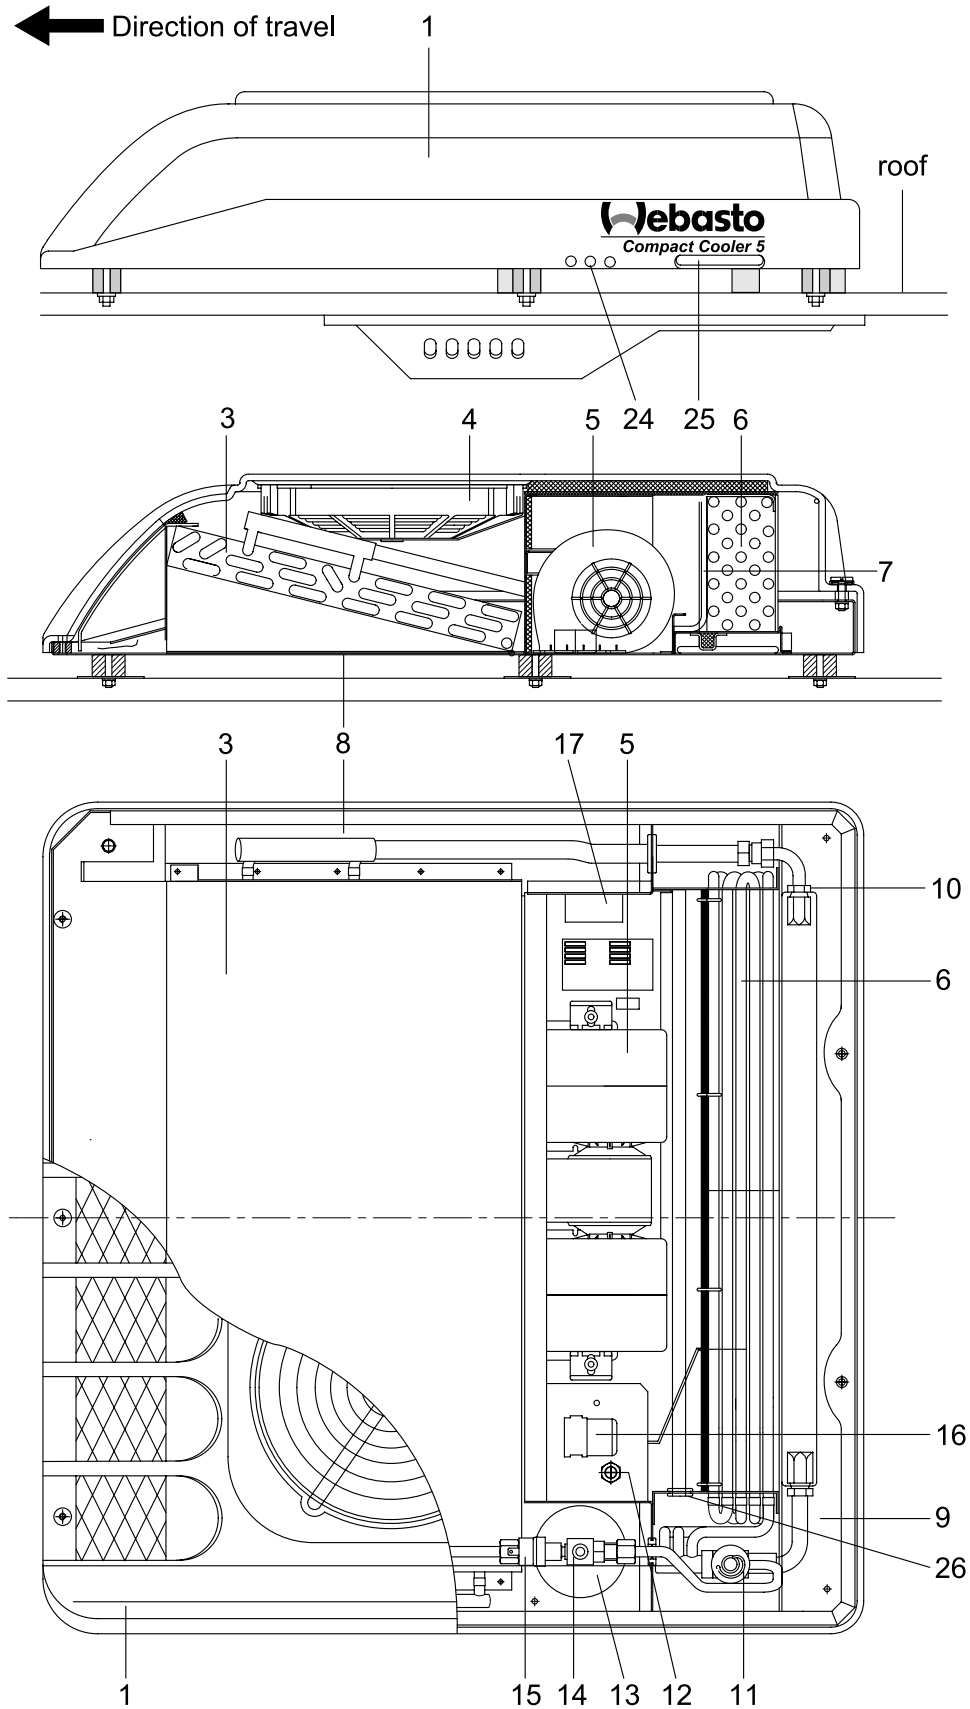
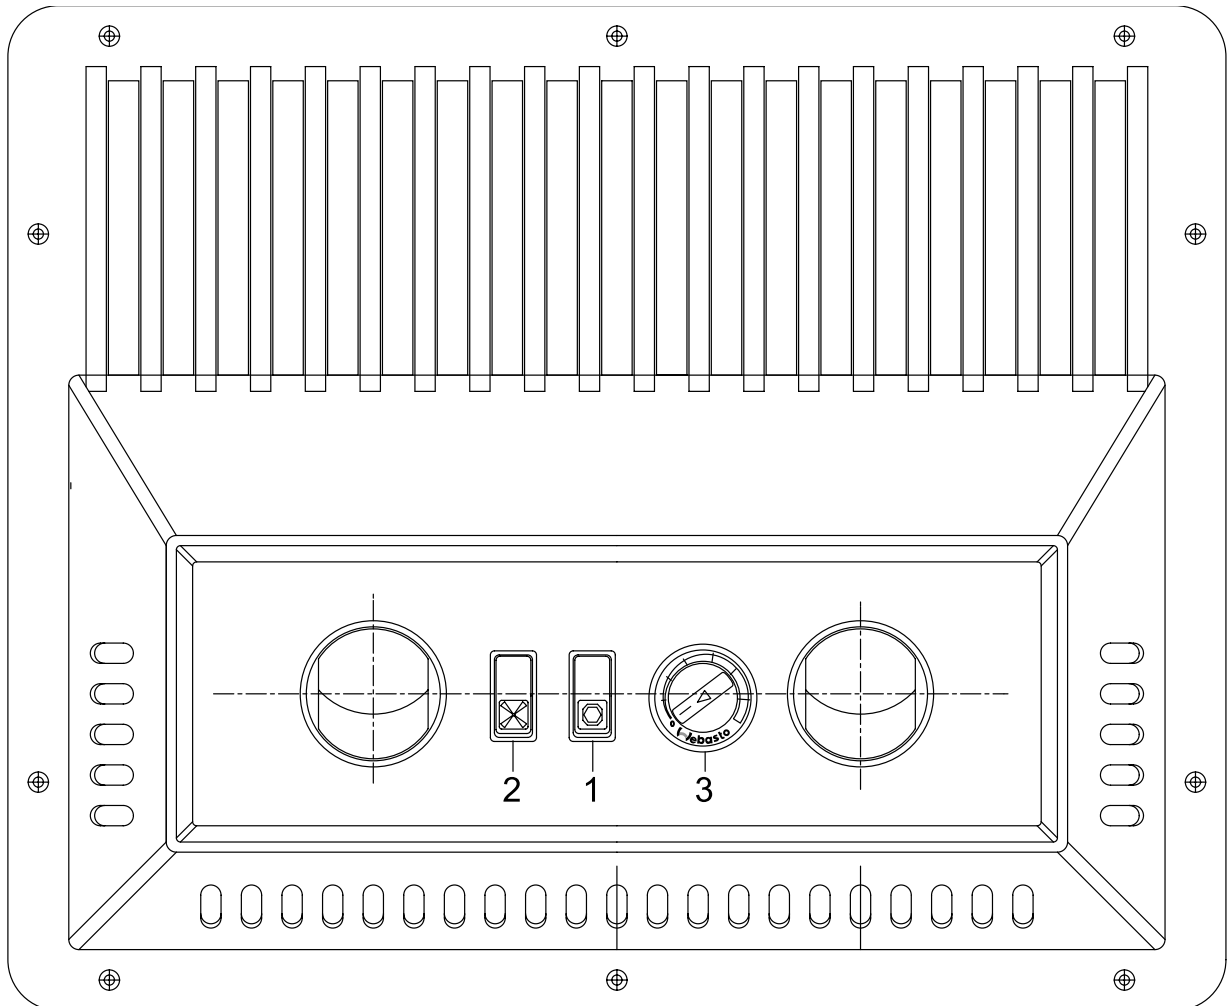

Fig. 2.2
Fig. 2.2a
The roof-top air-conditioning unit is illustrated in Fig. 2.2.
In addition to the roof-top unit, the delivery also includes the air distribution panel (Fig. 2.2a). Control elements such as the ON / OFF rocker switch (1) and the rocker switch for the fan (2) can be integrated into the air distribution panel.
In the deluxe version, an electronic thermostat is also integrated into the roof-top unit. A setpoint generator potentiometer (3, Fig. 2.2a), which can be installed in the air distribution panel, is supplied for setting the temperature.
Any rainwater that gets into the roof-top unit is discharged via the drain opening (24, Fig. 2.2).
The condenser (3, Fig. 2.2) is made up of continuous coiled tubing and fins, which are interconnected to form a large heat exchanger surface.
The collector-drier has an inspection window (13, Fig. 2.2) and acts as an expansion and storage tank for refrigerant. In its lower part it contains desiccant granules that remove and chemically bind small amounts of water present in the refrigerant. This reduces the formation of ice in the expansion valve and protects the compressor against damage. During operation, the inspection window (14, Fig. 2.2) indicates if there is an adequate amount of refrigerant in the system.
The thermostatic expansion valve (15, Fig. 2.2) controls the refrigerant flow to the evaporator to meet the refrigerant demand and/or the temperature in the evaporator. The thermostatic expansion valve constitutes the control element between the high and low pressure sides of the refrigeration system.
The basic design of the evaporator (6, Fig. 2.2) is identical to that of the condenser. In the evaporator, the refrigerant flowing from the expansion valve through the evaporator tubing is converted from a liquid to a vapour state and is superheated.
The evaporation heat required for this purpose is extracted, via the fins, from the cab air flowing through them and is transferred to the refrigerant via the walls of the hoses. The cooling air is dried and any condensation water that may have formed is discharged to the outside. The mist separator (7, Fig. 2.2) prevents condensation water droplets from being drawn in by the radial fan and getting into the interior of the vehicle.
The pressure cut-out switch (11, Fig. 2.2) comprises a high pressure and a low pressure switch. It monitors the pressure on the high pressure side of the refrigeration system and uses the electromagnetic clutch to switch off the compressor if the pressure is too low (for example due to refrigerant loss) or too high (for example due to condenser overheating).
The de-icer switch (12, Fig. 2.2) is a temperature switch. It measures the temperature between the fins of the evaporator and shuts off the power supply to the electromagnetic clutch of the compressor if there is a danger of ice formation (approx. 0 °C) and switches it on again when the temperature has risen to approx. 3 °C.
The two axial fans (4, Fig. 2.2) consist of a DC motor, fan impeller, enclosure, and protective grille. Once the air-conditioning unit has been switched on they have a permanent voltage supply, via the relay (K1, Fig. 3.1), from the vehicle's electrical system and provide the condenser with the ambient air it requires.
The radial fan (5, Fig. 2.2) contains a multi-speed DC motor. It draws in the cab air through the evaporator and discharges it back into the cab through the nozzles in the air distribution panel (Fig. 2.2a).
The compressor (Fig. 2.2) consists of a swash plate compressor and the electromagnetic clutch with a V-belt pulley. When the air-conditioning unit is switched on, the compressor is switch on and off by the electromagnetic clutch.